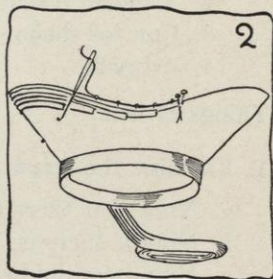

FIG. 2.
- c. Pin the straw over the pin and in the facing where you want to sew the straw (see Figure 2) and be sure to use the finished edge of the straw for the extreme edge of the brim.
- e. Sew left across the back and all around the edge, until you come to the starting-point (see Figure 2).